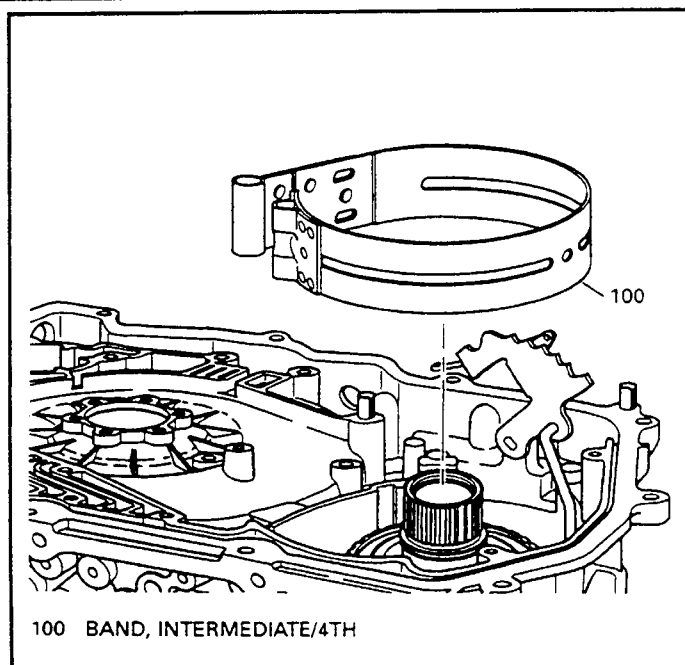

Figure 154
28. Install a new intermediate/4th band (100) into the transaxle case as shown in Figure 154.